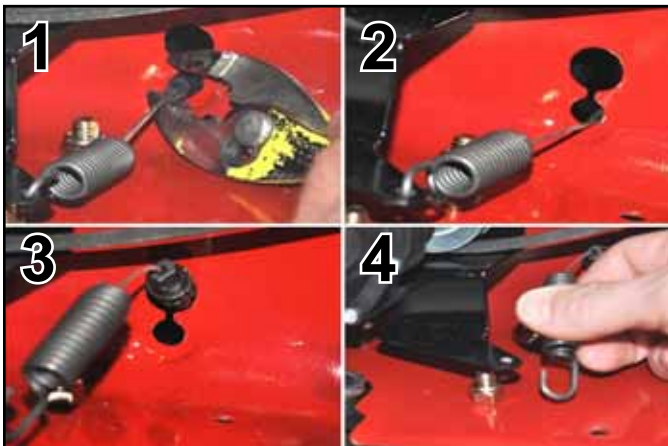

Fig. 141
- Release traction cable guide bushing (Fig. 141).
- Move traction cable up to allow the cable guide bushing to pass through the larger upper hole. This will provide enough slack to disconnect the cable from the transmission (Fig. 141).
- Disconnect cable from transmission (Fig. 141).